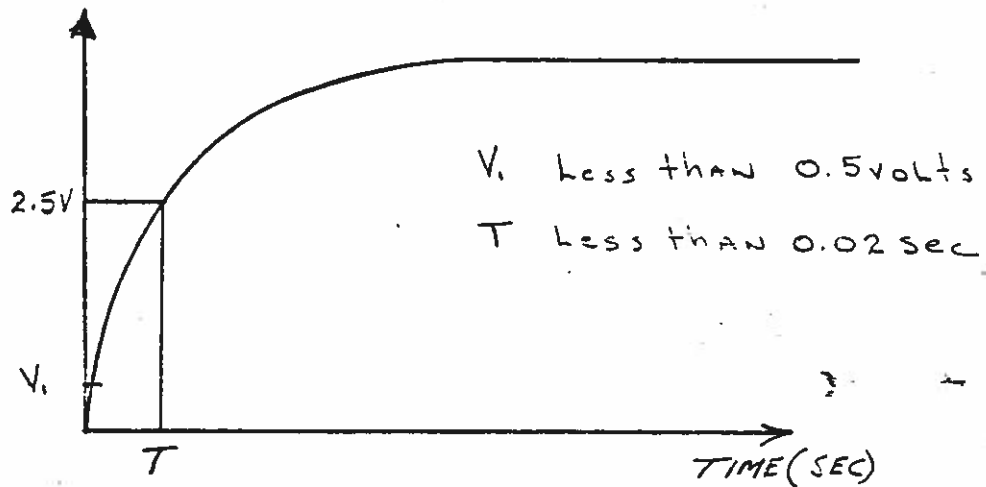

FIGURE 1
15. Open S1 and push S5. Scope trace should appear as shown in Figure 1.